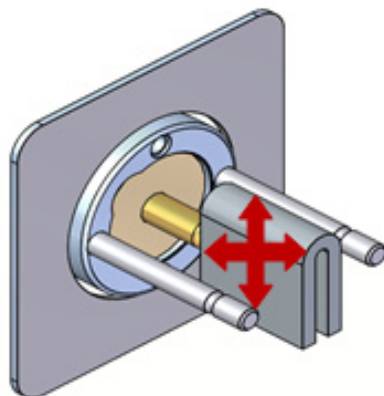

Figure 5-13 Cleaning the piston
12. Use the scouring pad included in the seal replacement kit to clean the piston. Gently squeeze the piston within a folded section of the pad and rub the pad along the length of the piston. Rotate the piston frequently to assure the entire surface is scrubbed. After scouring, use a lint-free cloth, dampened with alcohol, to wipe the piston clean (Figure 5-13).